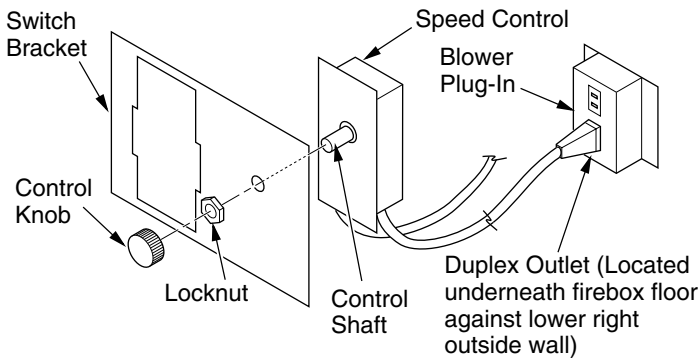

**Figure 25 - Blower Model BK**
1. Attach the power cord to the blower motor by firmly pushing the two female terminals at the end of the power cord onto the two spade terminals on the blower motor (see Figure 25).
2. Attach green ground wire from power cord to blower housing using screw provided (see Figure 25). Tighten screws securely.
3. Place the blower against the lower rear wall of the firebox outer wrapper with the exhaust port directed upward. The blower will fit inside the back opening and be held in position against the back wall by the magnets (see Figure 25).